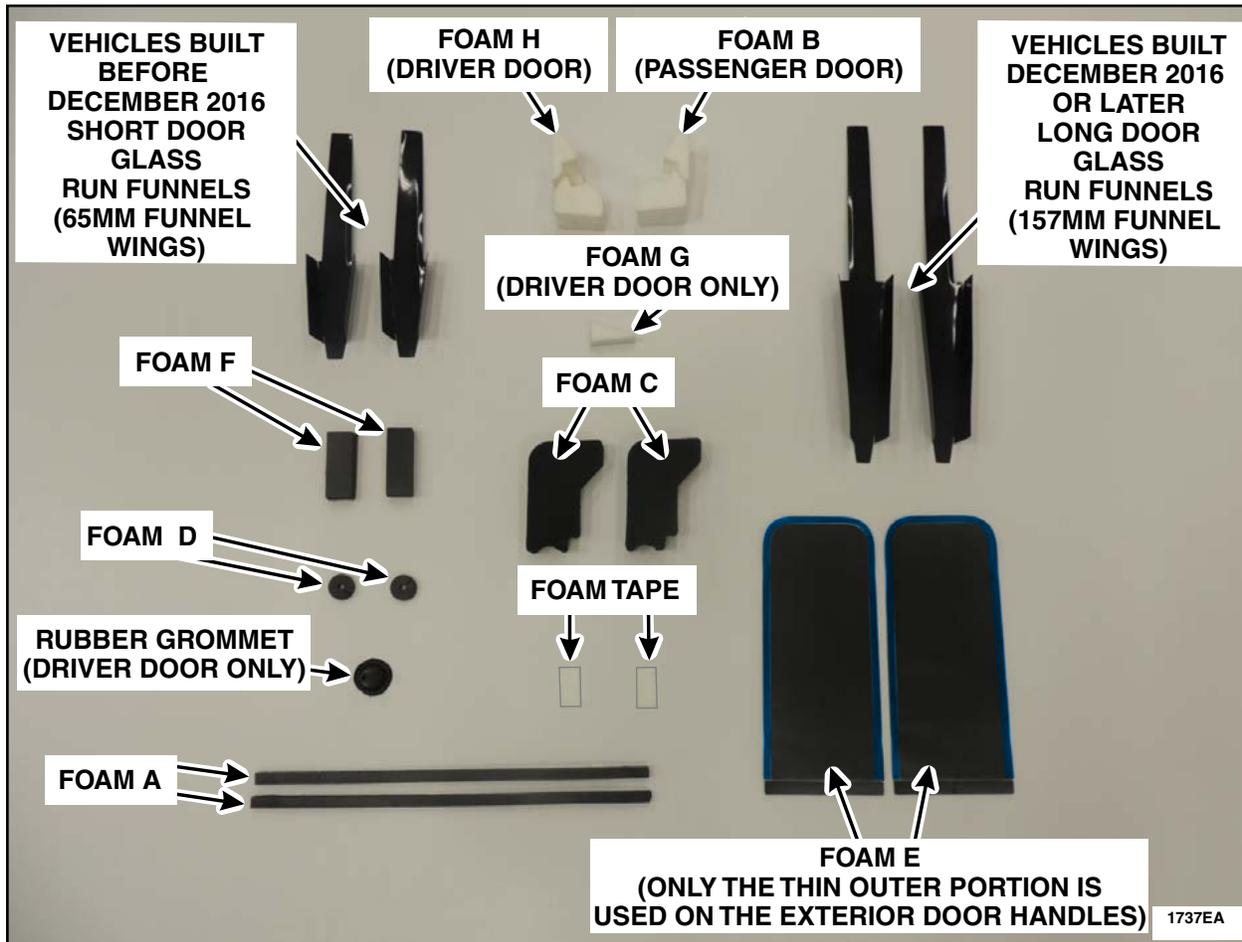

FIGURE 12
5. Clean the surface area where the water shield covered with isopropyl alcohol and a clean shop towel. Use part of the center portion of Foam E (refer to Figure 12) or some locally acquired body tape to seal the holes the attaching clips were previously installed in. See Figure 3.
NOTE: The parts being installed in this procedure are not labeled. Refer to Figure 12 for component identification.